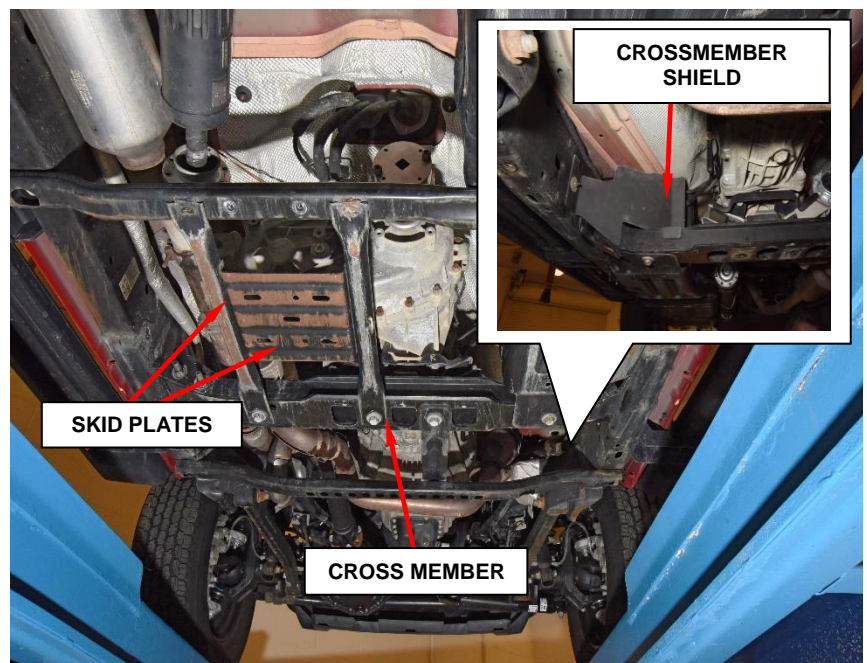

Figure 6 – Skid Plates
3. Remove the crossmember shield (Figure 6).
4. **If equipped:** remove the skid plates (Figure 6).
7. Remove the transmission cross member (Figure 6).